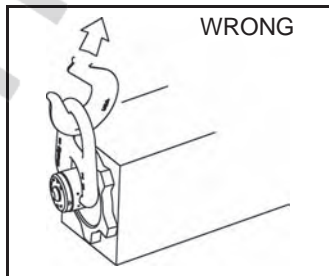

Figure 2
- Apply partial load and check proper rotation and alignment. There should be no interference between load (work piece) and trench cover hoist ring bail (Figure 2).